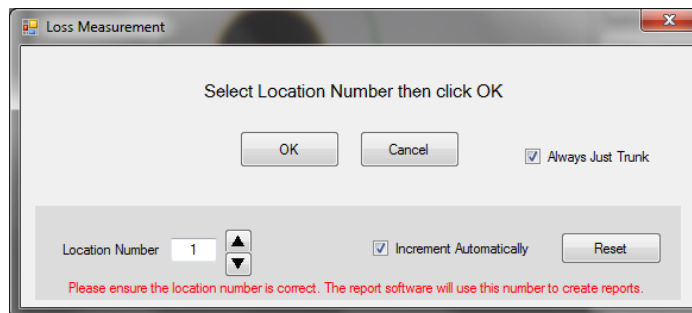

Figure 26: Loss measurement Location Prompt – Always Just Trunk Enabled
*Always Just Trunk:* Check this if your measurements are always trunk and do not include the top sector. If checked, you will not be prompted for top sector measurements as shown in Figure 26.